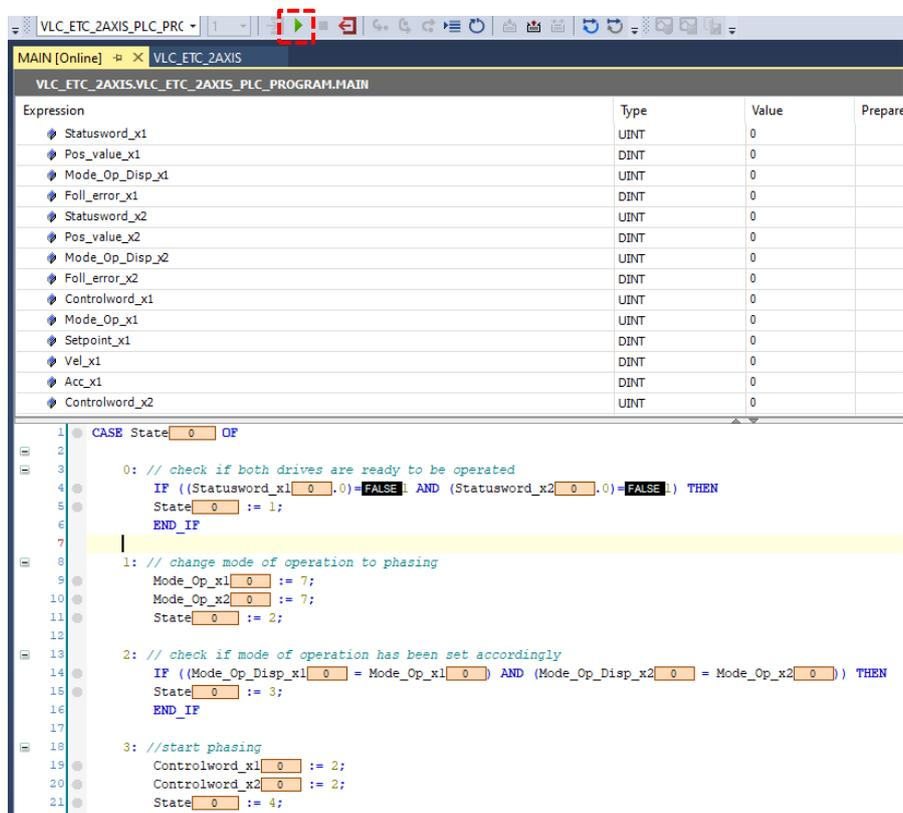

Figure 3.31.
- Lastly, click on the button highlighted in Figure 3.31 to execute the program.